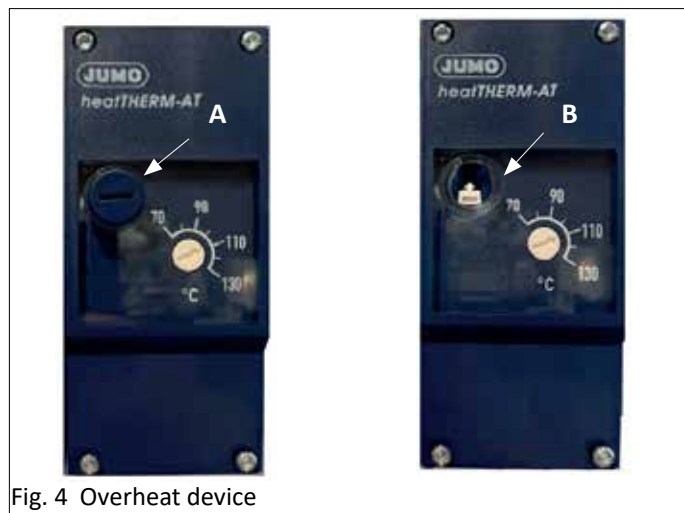

Fig. 4 Overheat device
To reset the Jumo overheat stat shown in Fig 4, remove the plastic cap (A) with a screw driver and lift the white lever (B).